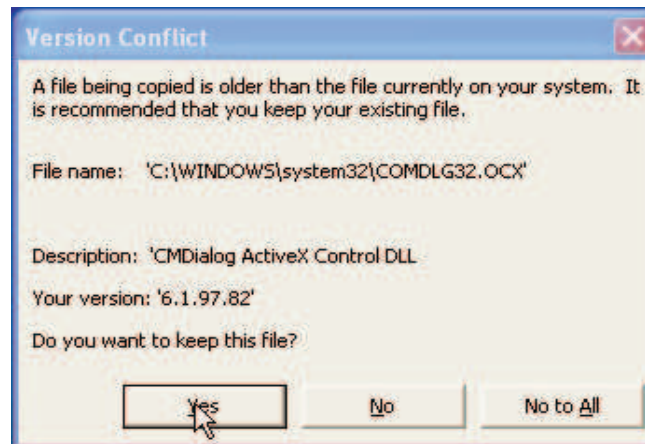

Figure 10. File Version Conflict Dialog Window
- Step 6. If a file being copied is an older version than the existing file on your system, you can retain your existing file by clicking *Yes* as shown in Figure 10.